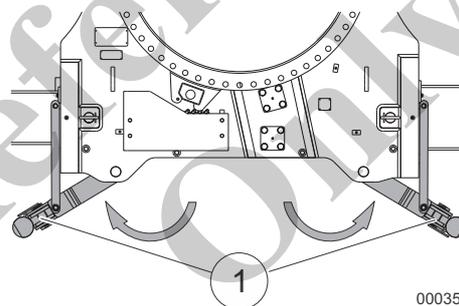

Fig. 102 Folding the outrigger cylinders
6	Fold in the outrigger cylinders (1) in Fig. 102 on the front and rear of the undercarriage as shown in the illustration.